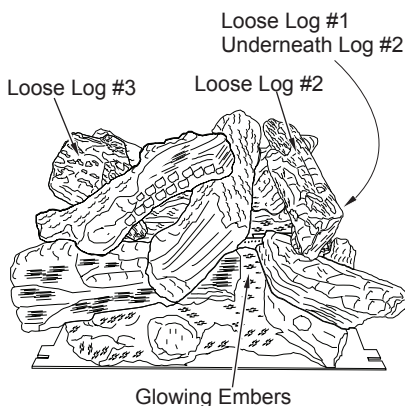

Figure 28 - Installing Loose Logs
2. **For 36" models only:** install 3 loose logs by placing log #1, log #2 and log #3 onto one piece log as shown in Figures 28, 28a and 28b.
3. Pull glowing ember material apart into pieces no larger than a dime. Place these pieces loosely and sparingly directly onto exposed burner ports (Figure 28). This will create the glowing ember appearance as flame touches ember material. Do not block air slots by using too much ember material in one area. Do not block pilot ports with embers. It is not necessary to use all of the glowing ember material provided.
- For 36" models only:** Remove 3 loose logs from log set (see Figure 28, 28a and 28b, page 22).